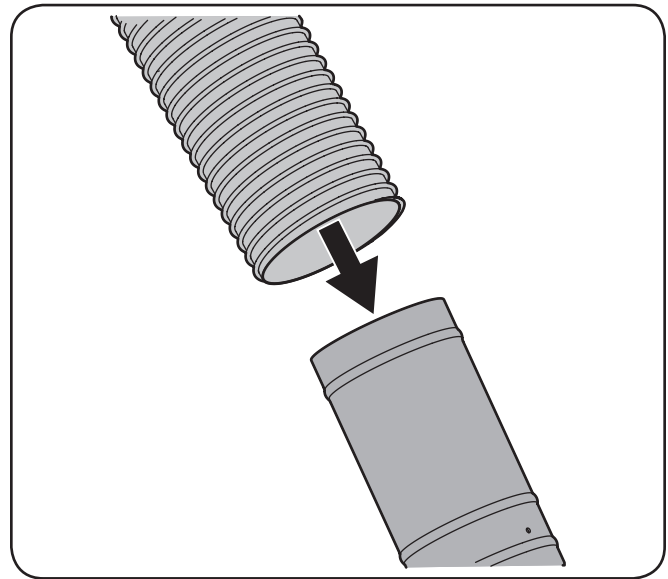

Figure 4-22
3. With the ability now to wiggle the discharge chute tube back and forth, slide it over the chute elbow mounted on the cutting deck, as shown in Figure 4-22.